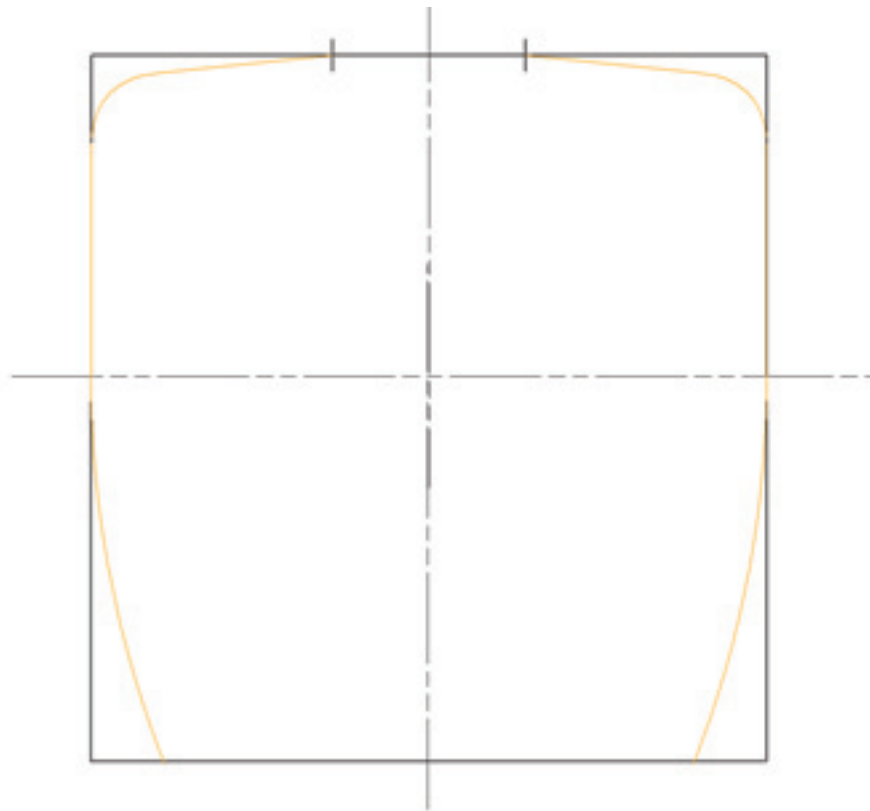

Fig. 81: Final tank shape
- Combine the calculations for the top and bottom to get the complete shape of the tank (figure 81). This is also the shape and size of the vertical steel bar pieces needed to build a form.